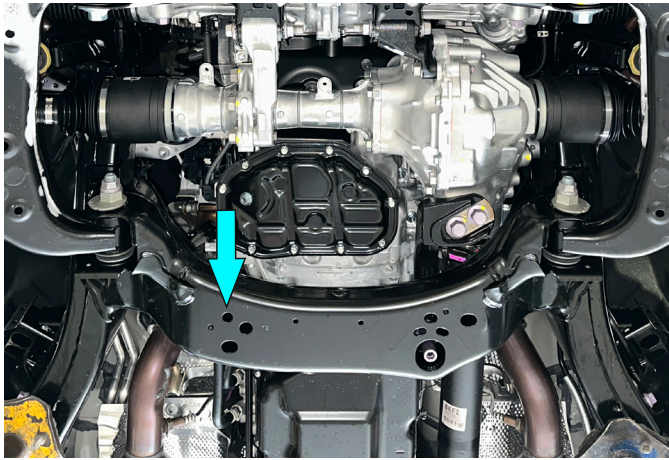

Fig. 1
1. Install insert nut M8 (item E) as shown in fig. 1.